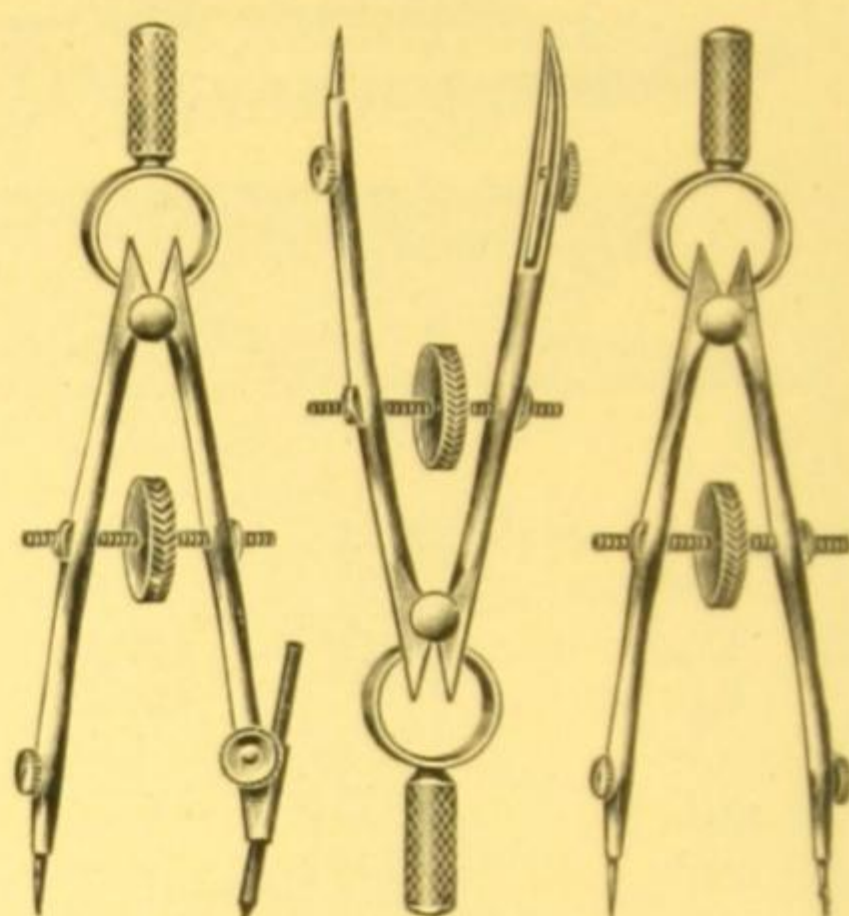

Fig. 179.
- SM 709.—...**ditto**.....with C springs and central screws. The set of three, pen, pencil and divider, in case ..... Fig. 179 **£1 4 0**